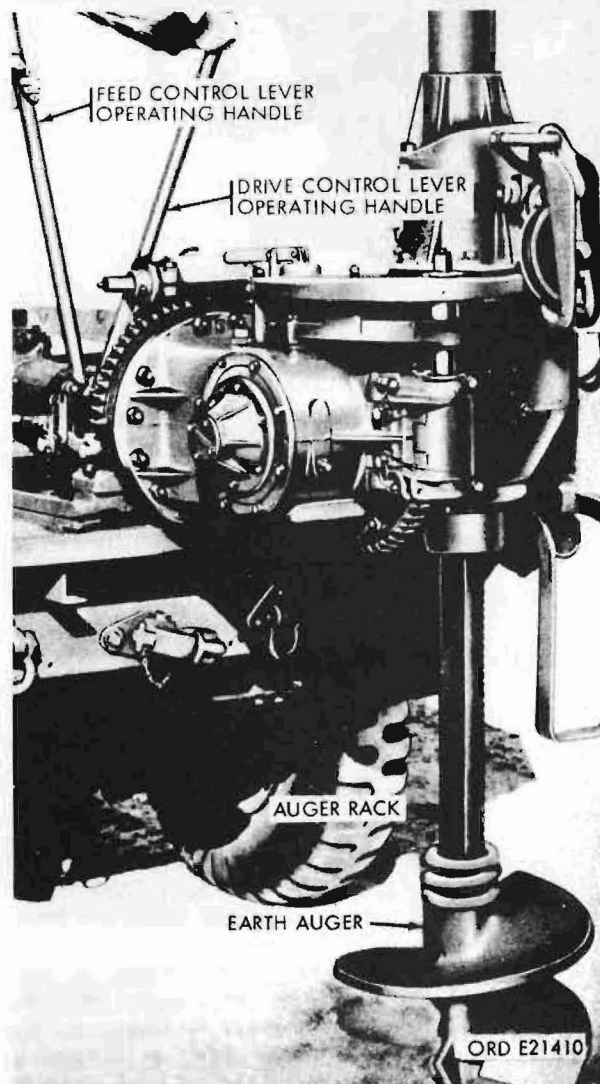

Figure 164. Lowering earth auger to ground
- (d) Push on the drive control lever operating handle (fig. 164) while pulling on the feed control lever operating handle to lower the earth auger to the ground.